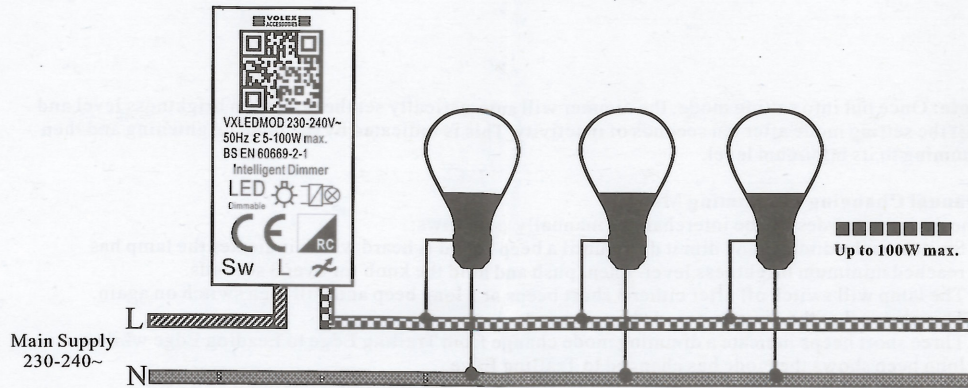

Figure 3 1-way Switching and Dimming
- To connect the wiring for 1-way or 2-way circuits, refer to Figure 3 and 4. Ensure terminals are properly tightened and no bare wire is visible.
In 1-way lighting circuits, each lamp is controlled by one switch. The dimmer switch should replace the existing switch. Remove the existing switch taking note of the wiring of the switch and the terminal markings. Connect the wires as shown in Figure 3. Do not connect any conductor to the dimmer terminal labeled as “Sw”. This is only for use with 2-way switching.